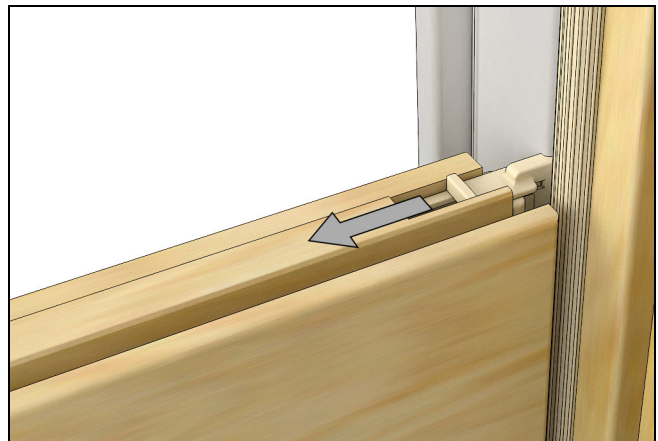

Figure 74
6. Retract both latches simultaneously and tilt sash inward slightly. See Figure 74.